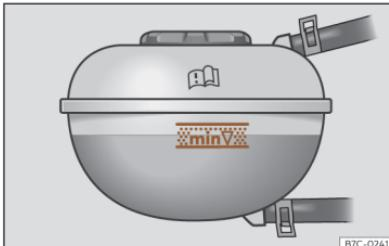

Fig. 197 In the front compartment:
- When the electric drive system is cold, check the coolant level using the side marking on the expansion tank >>> **Fig. 197**. The coolant level should be between the marks.
- The coolant level must be between the marks on the expansion tank >>> **Fig. 197**. **Never exceed the top edge of the marked area** >>> .
- When topping up the, do not fill over the upper edge of the marked area >>> Fig. 197. Otherwise, when the temperature rises the excess fluid will be expelled from the engine cooling system and could cause damage.